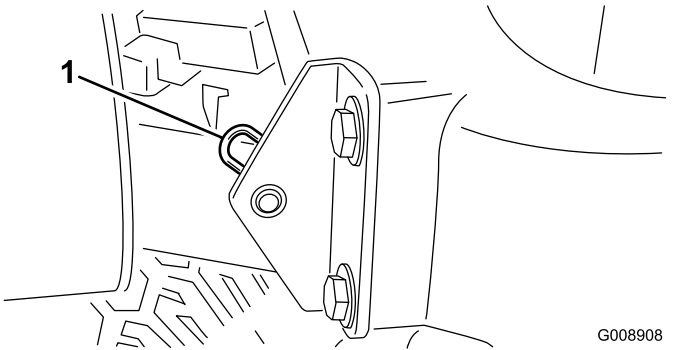

Figure 30
2. Remove the hairpin cotter securing the hood pivot to the mounting brackets (Figure 30).
**Note:** The flush fittings on the rollers (Figure 30) require a grease gun nozzle adapter. Order Toro Part No. 107-1998 from your Authorized Toro Distributor.